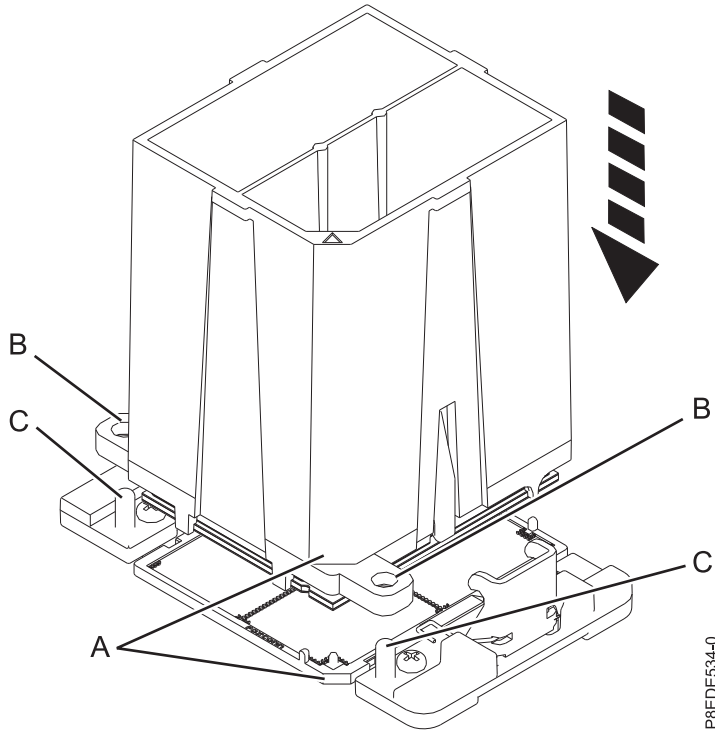

Figure 129. Installing the system processor module
- b. Lower the tool and system processor module onto the socket. Align the beveled corner (A) of the tool with the beveled corner on the socket. Ensure that the two guide pins (C) are inserted into the alignment holes (B) on each side of the tool. Use care to lower the tool evenly without tilting the tool. See Figure 129 on page 111.